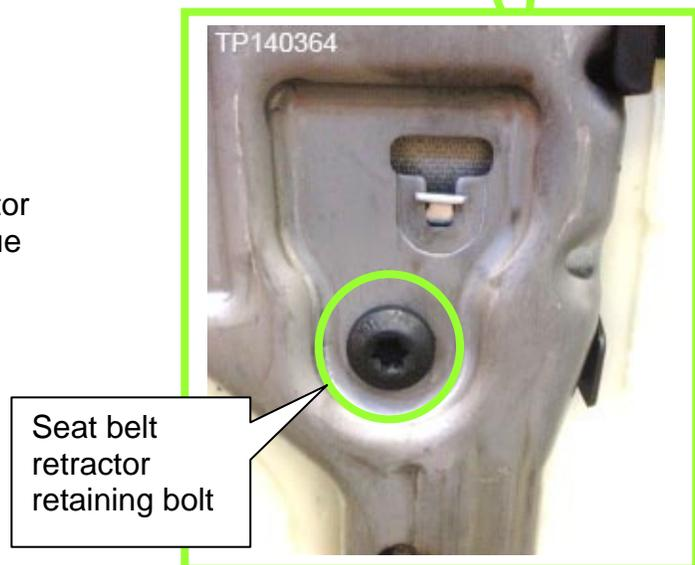

Figure 3
5. Verify the correct torque of each retractor retaining bolt (TORX® T50) with a torque wrench (Figure 3).